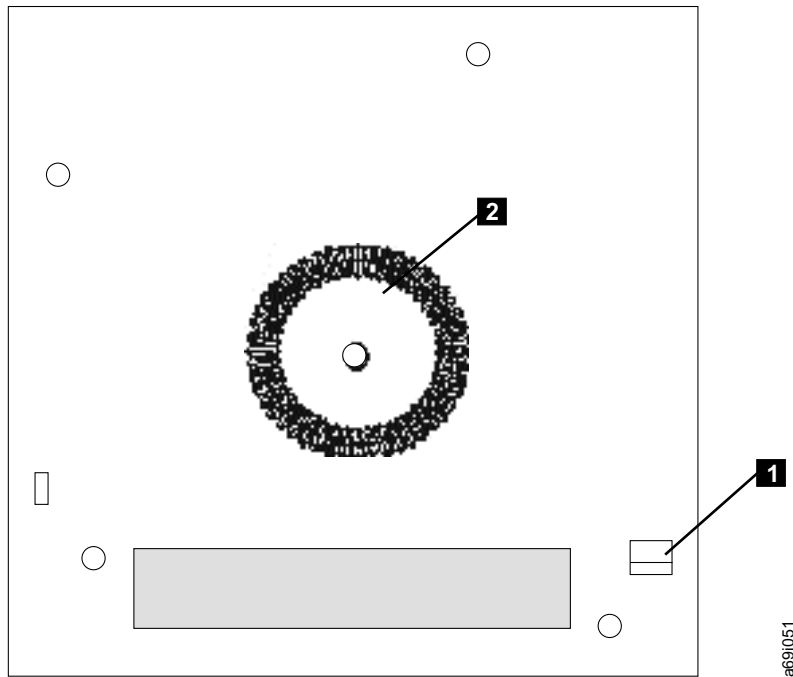

Figure 46. Checking the Cartridge's Bottom Reel Lock
5. Turn the cartridge over and inspect the white plastic tab on the right (see **1** in Figure 46). The tab is the second of two cartridge reel locks. If the tab is not visible, dispose of the cartridge.